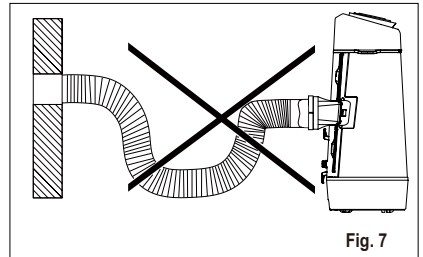

Fig. 7
- i** The hose can be extended from its original length of 38cm up to 150cm, but it is best to keep the length to minimum required. Also make sure that the hose does not have any sharp bends or sags. (Fig. 7)